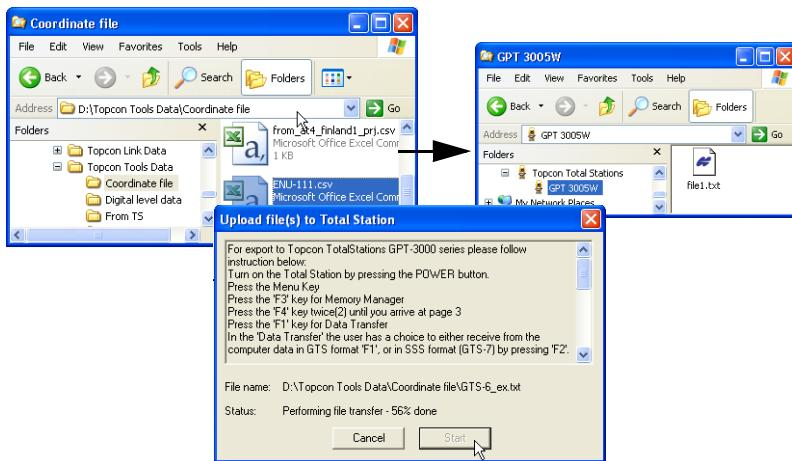

Figure 2-49. Exporting a Coordinate File to the Total Station
6. Follow the instructions in the *Upload File(s) to Total Station* dialog box (Figure 2-49 on page 2-30) to prepare the Total Station for exporting the file.
- When ready to send the file, press the **F3** key for “yes” on the Total Station. Click the **Start** button on the *Upload File(s) To Total Station* dialog box (Figure 2-49) to begin the process.